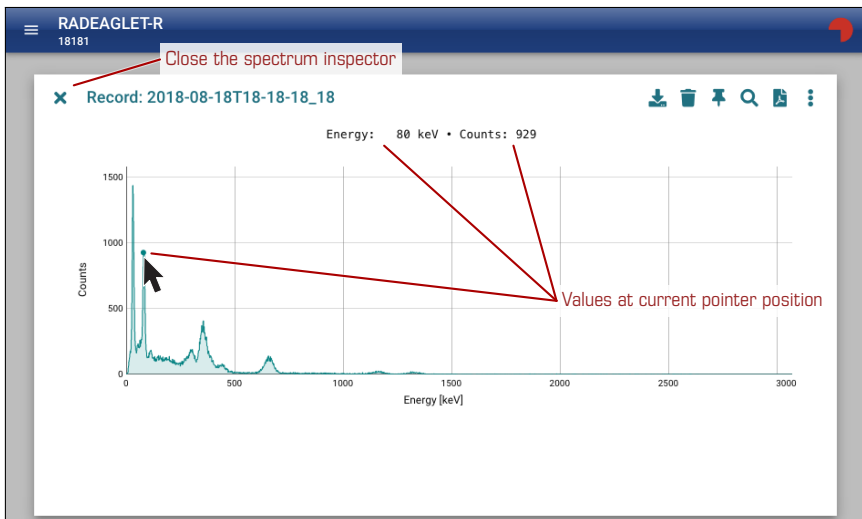

Figure 106: Spectrum diagramm in the Web interface
1. Move the pointer within the chart area and watch the coordinates of the current position shown above the chart (Fig. 106, p. 104).